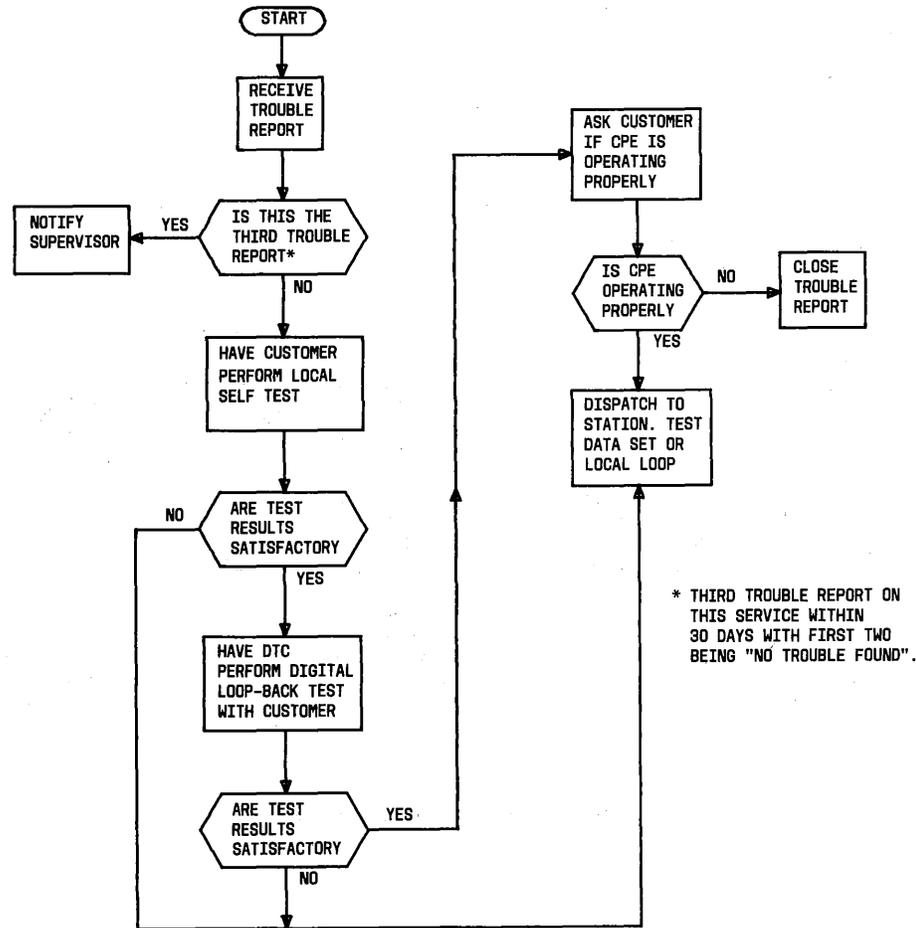

Fig. 6—Maintenance Test Sequence—DS 113C
4.01 The procedure given in Fig. 6 should be used as an aid in sectionalizing trouble. This information, usually provided to the DTC, is included here for use by those locations where the trouble is reported to and investigated by the local repair force.